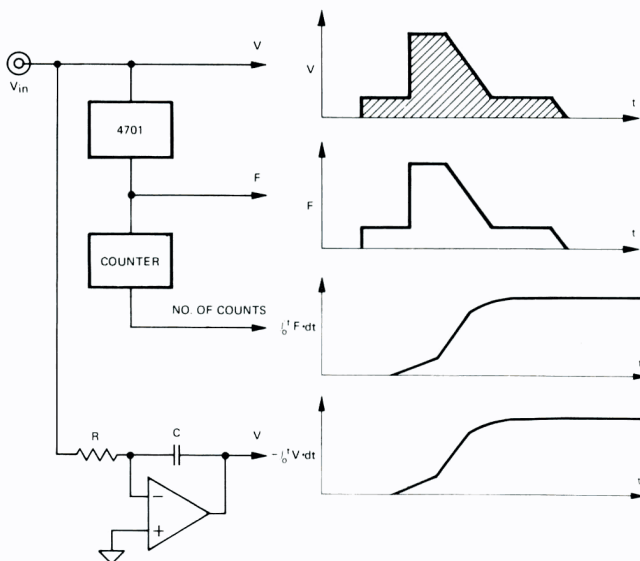

Figure 1. Integrator Using V-F
1. Voltage-to-Frequency Converters make good long-term integrators, as shown in Figure 1. Of course it must also be recognized that analog integrators are easy and inexpensive to build for time constants from 1 millisecond to 100 seconds. However, when the time constant approaches 1000 seconds the operational amplifier required becomes expensive and the capacitor becomes very expensive, since a leakage rating of  $10^6$  Megohm-Microfarads at the temperature of interest is required to achieve an accuracy of 0.1%. To get better accuracy or longer time-constants the analog integrator becomes prohibitively expensive, with the capacitor being the most costly component, and the V-to-F integrator becomes an extremely attractive alternative. Put an analog input signal into a Philbrick Model 4701 (10 kHz) V-F and simply count the output pulses, and you have computed the "area under the curve," or integral, which is a classically useful function. V-F integrators have an inherently digital read-out, which is a very useful feature in some situations. If an analog output is required, it can easily be obtained by using a low-cost Digital-to-Analog Converter (DAC).